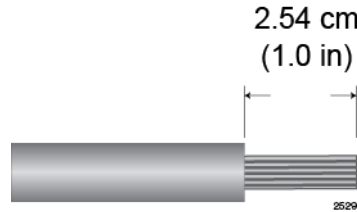

Figure 121. Stripping Solid or Stranded DC Power Wires
1. Prepare adequate lengths of two solid or stranded 8 AWG DC power wires by stripping them as shown in Figure 121.